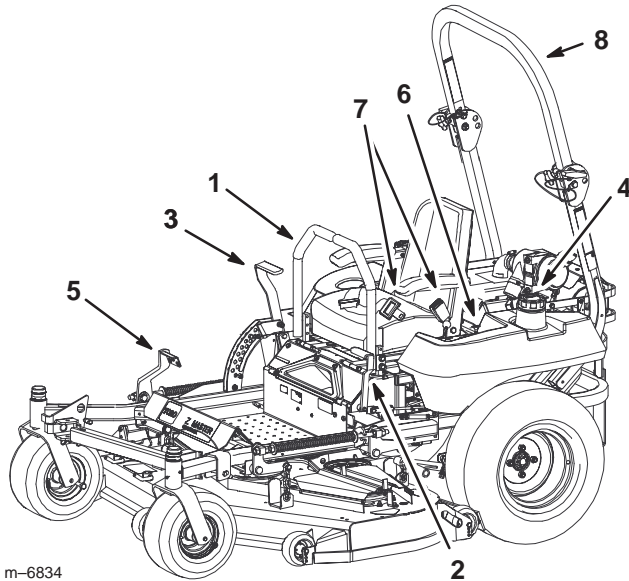

Figure 7
Become familiar with all the controls (Fig. 7 and 8) before you start the engine and operate the machine.
1. Move the motion control levers (Fig. 7) out to the neutral lock position.